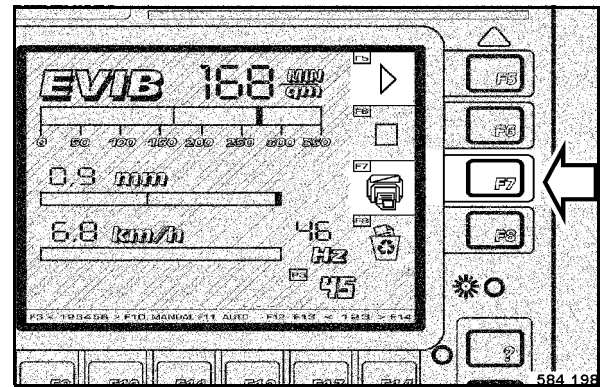

Fig. 102
- At the end of the measurement press push button F7 "PRINT" (Fig. 102).